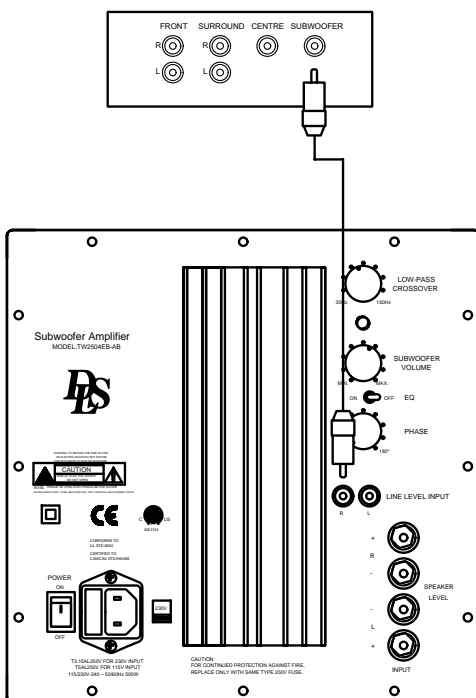
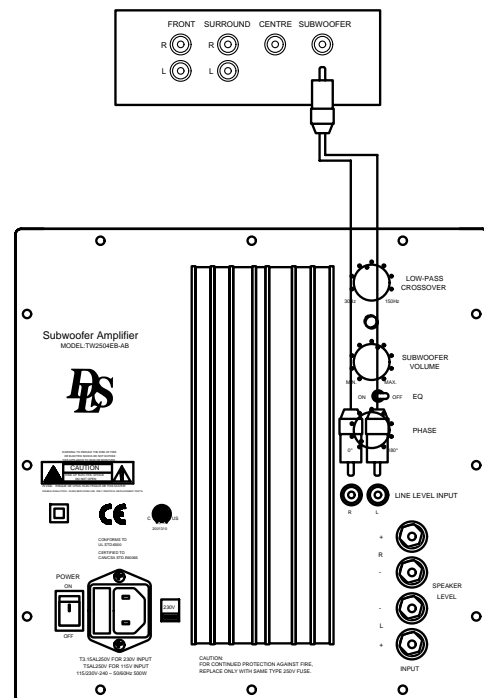

fig 3
fig 4
Surround amplifier provide a separate subwoofer line output, use a "Line Cable" from this output to LINE IN right (R), fig 3. You can also use a "Split Cable" to connect the subwoofer line output to both LINE IN, left (L) and right (R), fig 4. The sensitivity then increases with 6 dB.